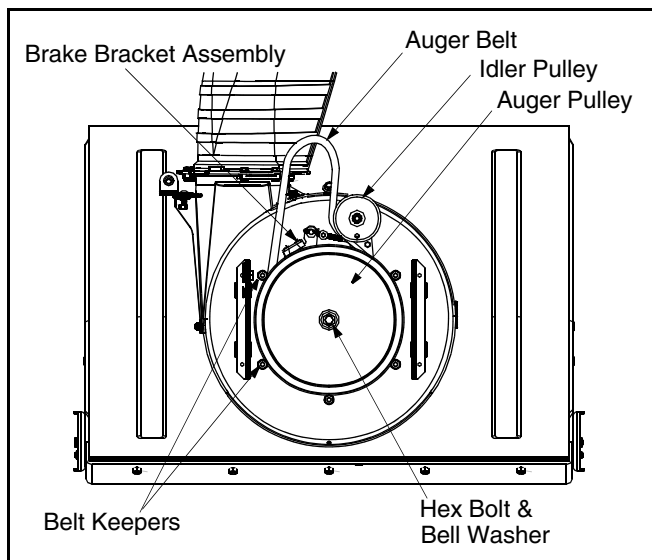

Figure 21
- Using a 1/2" wrench, remove the hex bolt and bell washer from the center of the pulley on the auger housing. Lift the brake bracket assembly out of the pulley groove and remove the pulley. Be careful not to lose the key. See Figure 21.